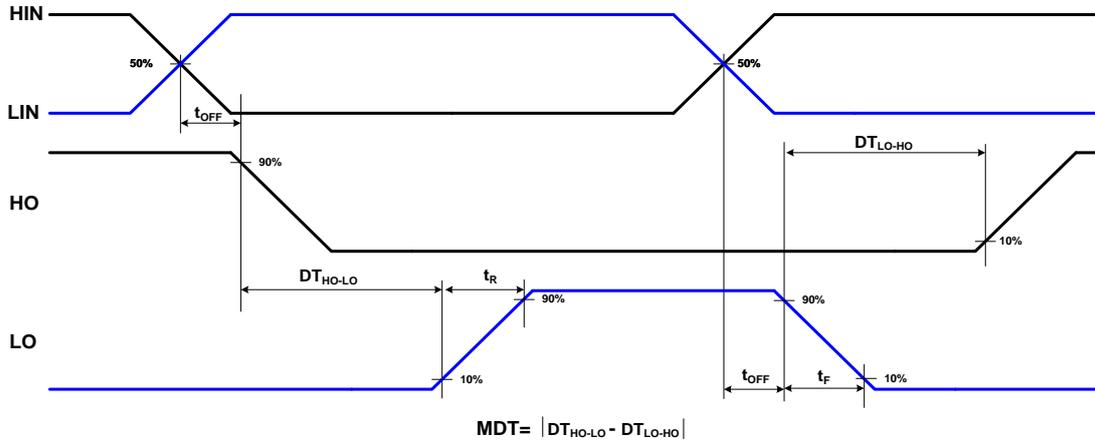

Figure 40. Internal Dead Time Definition
8. MDT is defined as  $|DT_{HO-LO}-DT_{LO-HO}|$  referenced to Figure 40.